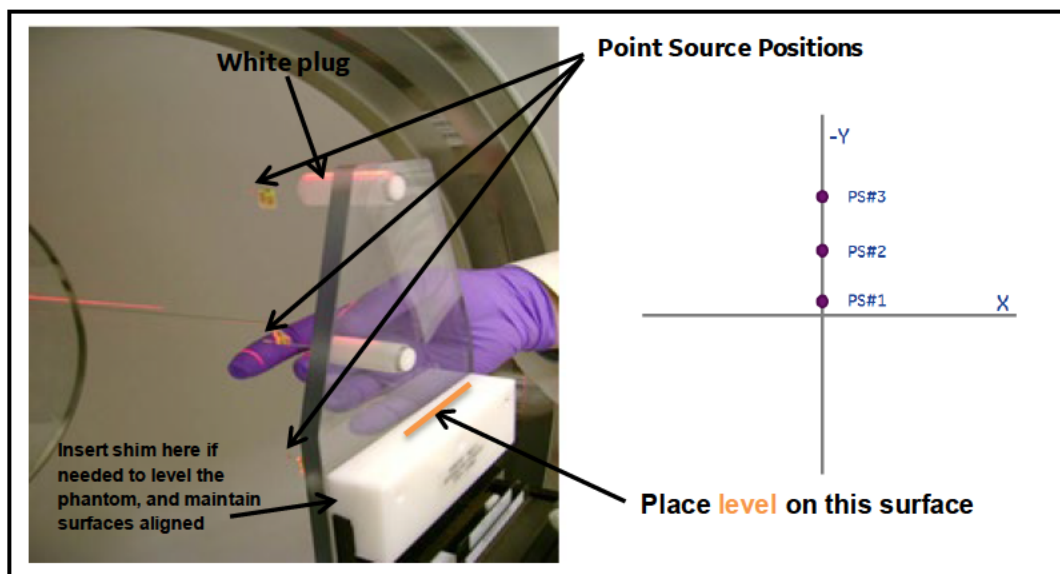
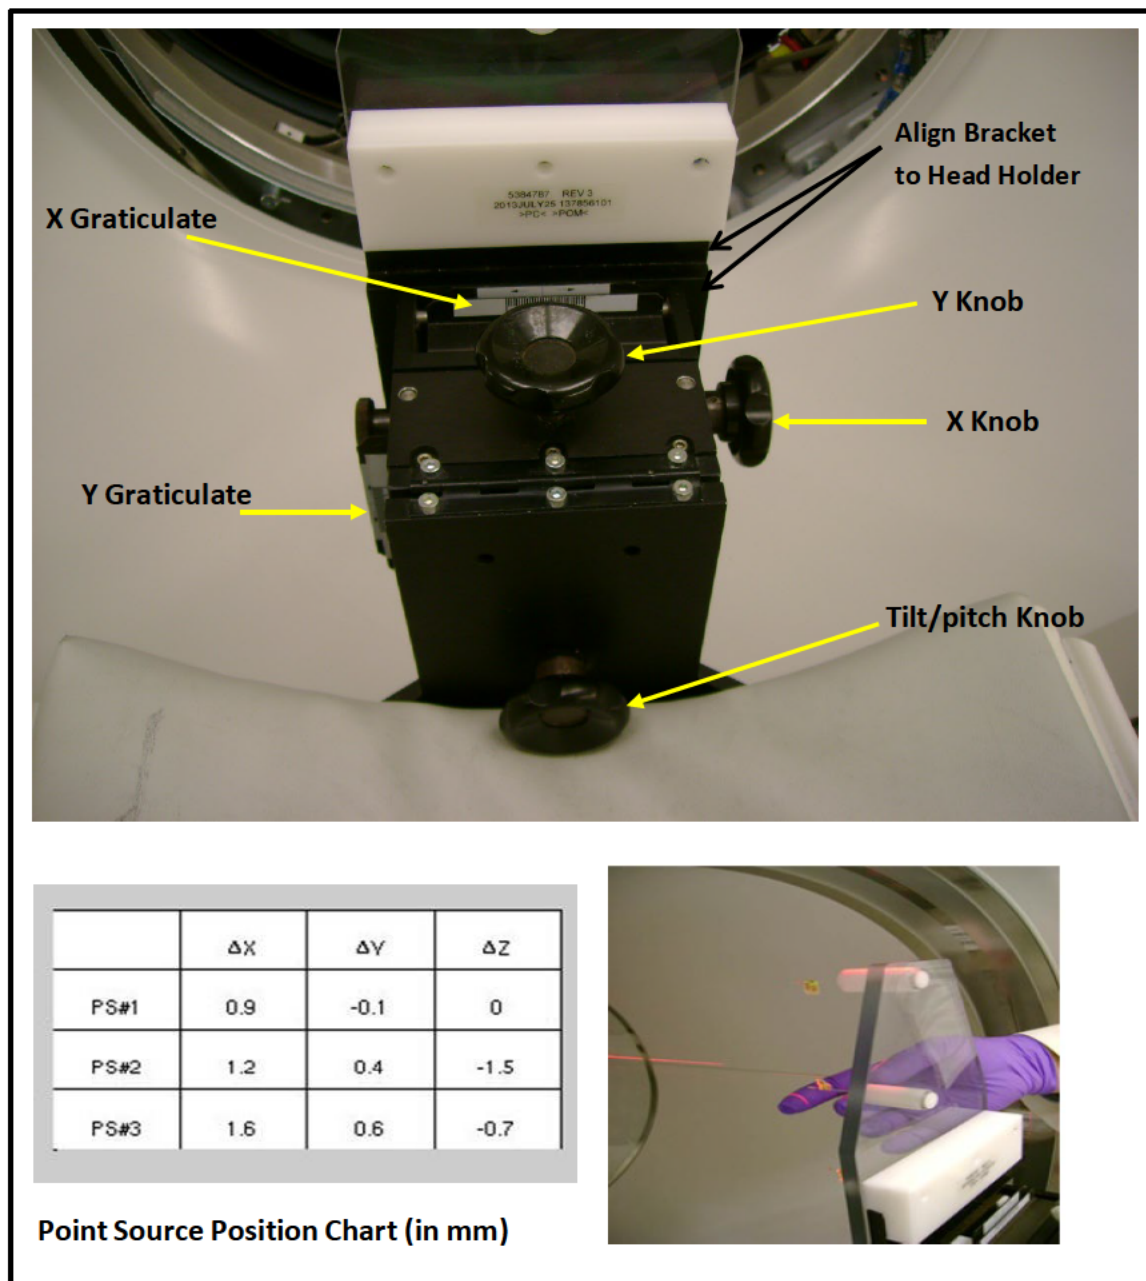

Figure 2.3: Point Source Positions, as Viewed from the Table Side of the Gantry.
Figure 2.8: Phantom Holder with Point Source Holder (Fixture 5384787-12).
NOTE: Refer to Figure 2.3. For data processing to execute correctly, position all three point sources in the specified locations. For best results, use the source holder (Fixture 5384787-12) to hold the capillary tubes in the exact locations.
1. Refer to Figure 2.3. Turn all the white plugs into the holding plate until thread bottoms out – do not tighten them. Gently insert one F-18 point source into each white plug. Push each of the tubes containing the source all the way into the plugs until the end of the capillary opposite to the point source reaches the bottom of the hole in the supporting plug.
2. Refer to Figure 2.3 and Figure 2.8:
3. Refer to Figure 2.3. Press the alignment light button and move the cradle into the CT scan FOV until the lasers at the CT image plane illuminate the active spot of all three point sources simultaneously.